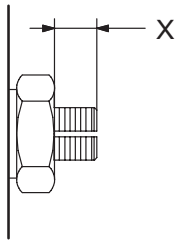

Figure 5-16
4. **Mechanical pressure control valves:** Measure insertion depth (Fig. 5-16) of setting screw (dimension X) and make a note. This ensures that insertion depth can be reproduced. Then close pressure control valve.